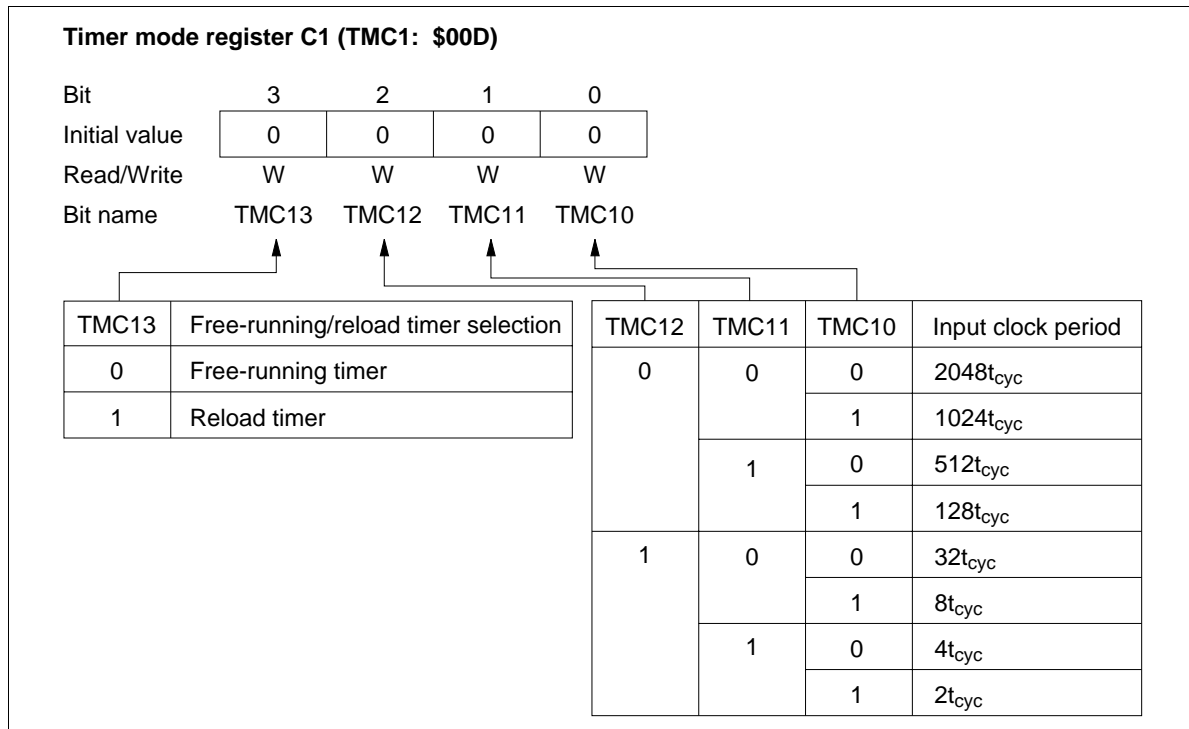

Figure 52 Timer Mode Register C1 (TMC1)
- Timer mode register C1 (TMC1: \$00D): Four-bit write-only register that selects the free-running/reload timer function, input clock source, and prescaler division ratio as shown in figure 52. It is reset to \$0 by MCU reset.